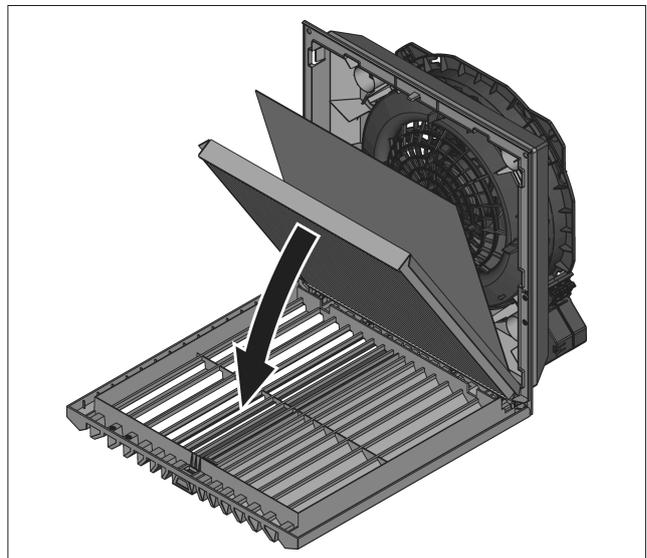

Fig. 21: Installing the IP 55 pleated filter
- For IP 55 only: Place the IP 55 absorber mat supplied with the pleated filters on the previously placed pleated filter (see fig. 21). The installation direction of the absorber is not critical.